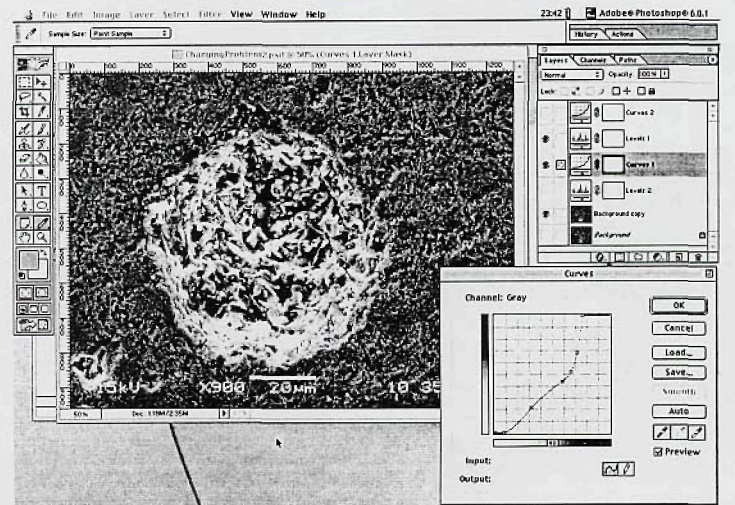

Figure 5. Illustration of how to use a Curves Adjustment Layer to control the transfer function from white to black.
6. Click on the half-filled circle on the bottom of the Levels pallet, and select "Curves". Adjustments to the transfer curve are made by clicking on the diagonal line to adjust its position. This establishes fixed points on the transfer curve. The points can then be moved by clicking and dragging them with the mouse, or by using the arrow keys when they are highlighted. An example transfer curve is shown in Figure 5.